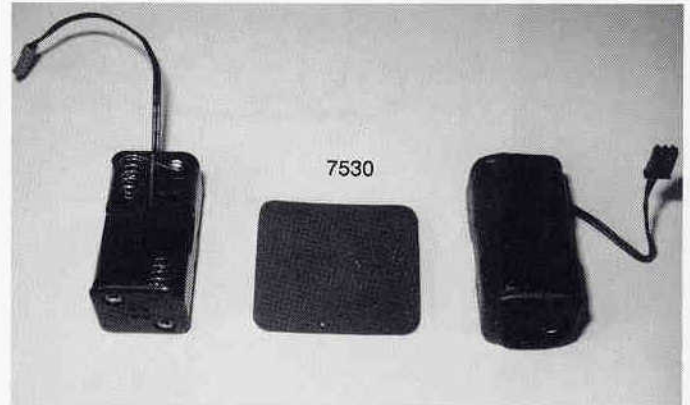

Fig. 233
□ **Figs. 233, 234 & 235** In bag #7-7 you will find the #7530 black foam pad. Now locate your radio receiver pack. If you are going to use the stock four AA receiver pack that comes with most radios systems, and batteries, then stick the foam pad to the rear bumper. Cut out the parts of the foam pad where the wire ties are in order to install new wire ties easily.